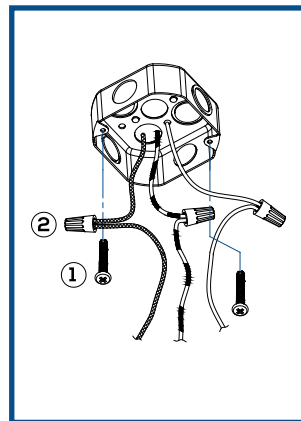

FIG. 2
3. Connect the black and white wires of the luminaire with two wires of the same color from the junction box with wire caps. Connect the grounding wire of the luminaire with the one from the junction box with wire cap (FIG. 2)